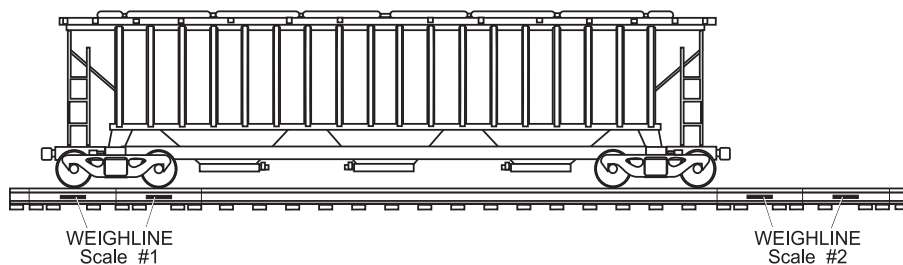

Figure 4
2. Move car so that rear truck is on the first scale and wheels positioned in the center of the Weighline sections. See Figure 4. Display will show first truck weight.